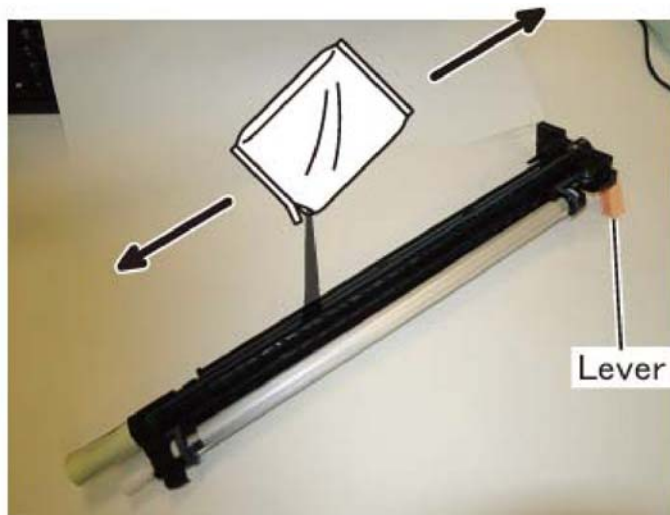

Figure 6 Developer
10. Put in the developer, Figure 6.